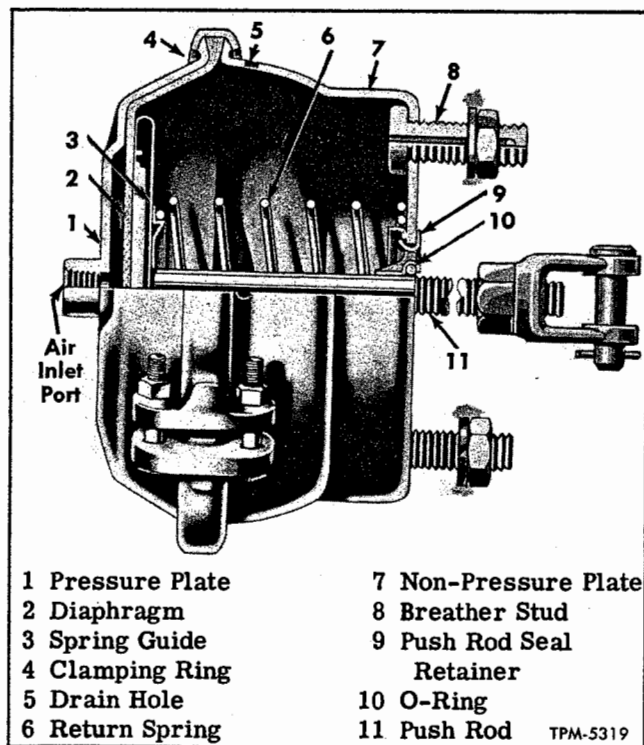
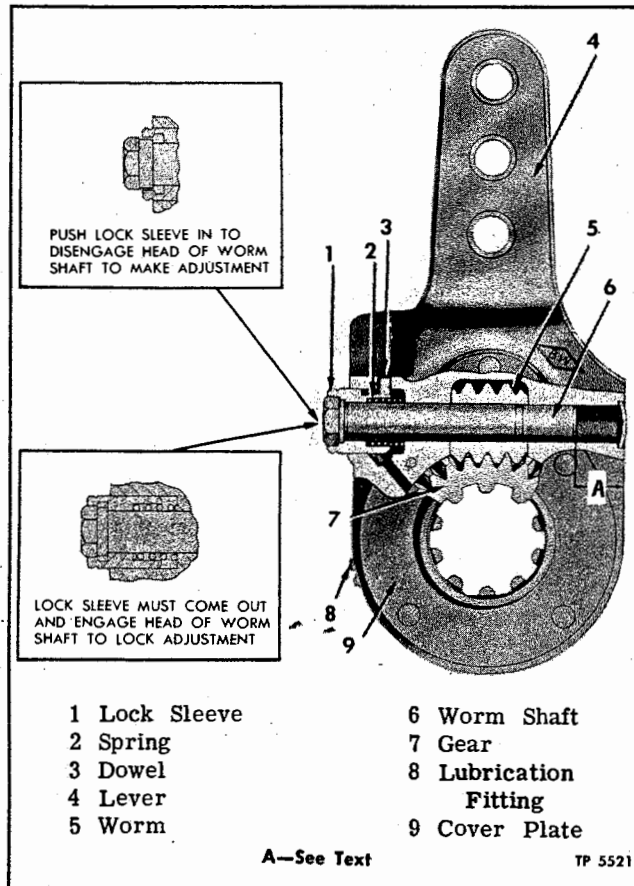
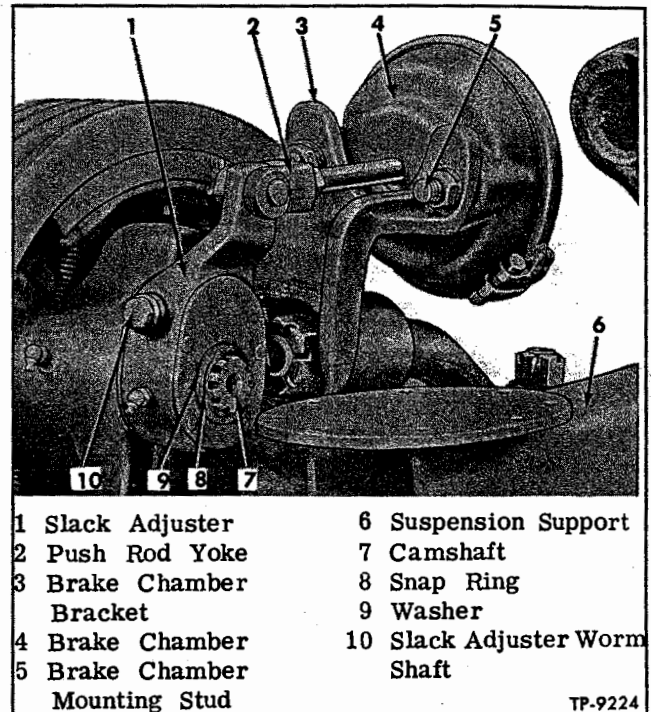

Figure 19—Brake Chamber
Figure 20—Slack Adjuster
Figure 21—Front Brake Camshaft, Bracket, and Slack Adjuster Assembled to Axle
An air brake chamber (fig. 19) is mounted at each wheel as shown in figures 21 and 22. Brake chambers are connected to air system through the brake application valve and rear brake relay valve.
One of the mounting studs on each brake chamber is drilled as shown in figure 19 to provide breathing on non-pressure side of diaphragm.
BRAKE CHAMBER REPLACEMENT**1. Removal (Fig. 21 or 22)**
2. Installation (Fig. 21 or 22)
BRAKE CHAMBER DISASSEMBLY (Fig. 19)
BRAKE CHAMBER ASSEMBLY (Fig. 19)
Slack adjusters function as adjustable levers and provide a quick and easy method of adjusting the brakes to compensate for normal lining wear. Positive locking type slack adjusters are used at front and rear brakes. Construction of both front and rear slack adjusters is as shown in figure 20. Front and rear slack adjuster installations are shown in figures 21 and 22.
Removal (Fig. 21 or 22)
Installation (Fig. 21 or 22)
SLACK ADJUSTER DISASSEMBLY (Fig. 20)
SLACK ADJUSTER ASSEMBLY (Fig. 20)
3. Enter small end of worm shaft through hole in body and worm. Press worm shaft into worm and body, making sure the groove in lock sleeve is aligned with pin in body. Press shaft in until distance from small end of shaft to edge of body (A, fig. 20) is $\frac{9}{16}$ ". Install welch plug in worm shaft bore.